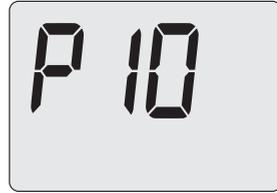

Figure 9.26
- The code **P10** appears on the display, indicating entry into “parameter P10” (Figure 9.26).
- Press 12 or 13 (Figure 9.23) to confirm the value entered and return to the list of parameters (Figure 9.26).